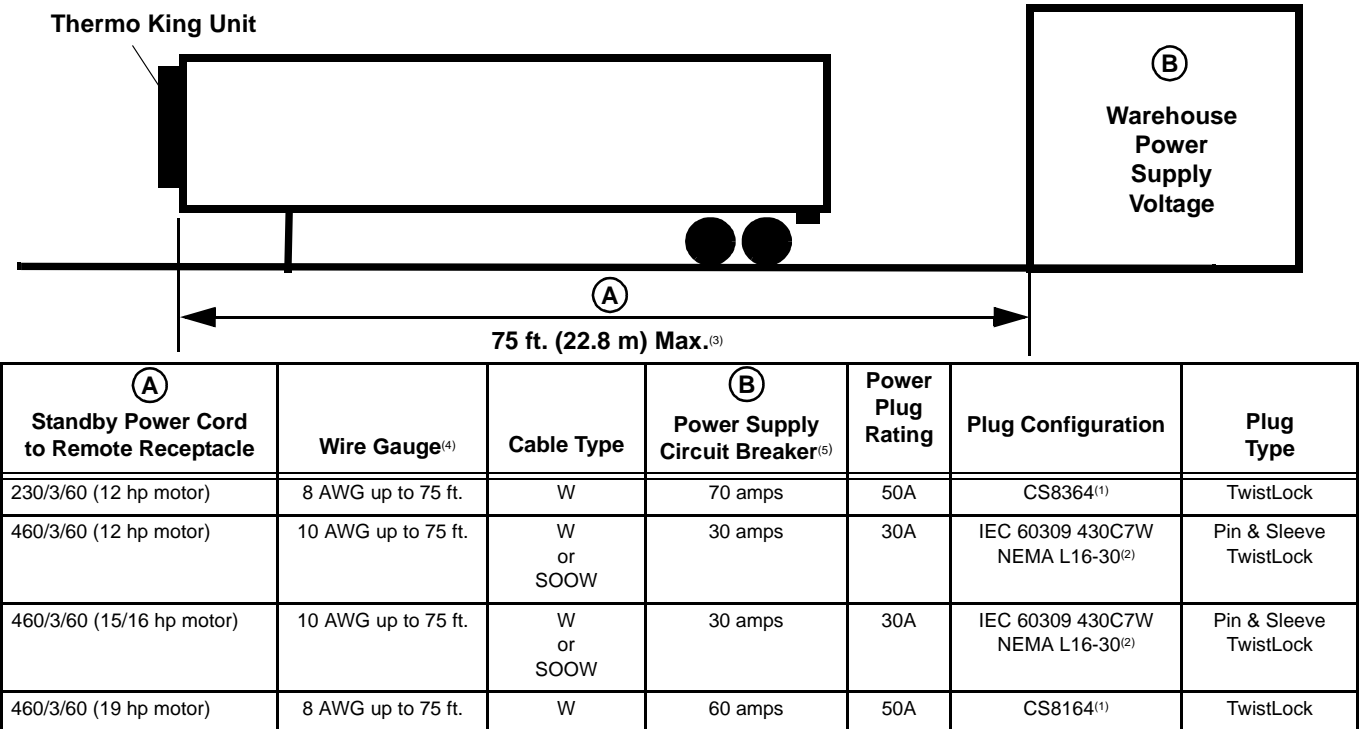

Figure 1: Standby Power Cable and Circuit Breaker Size Recommendations
- To prevent damage to the refrigeration units electric motor, the combined power cable length from the unit to the power supply, must not exceed the recommendations shown in Figure 1.